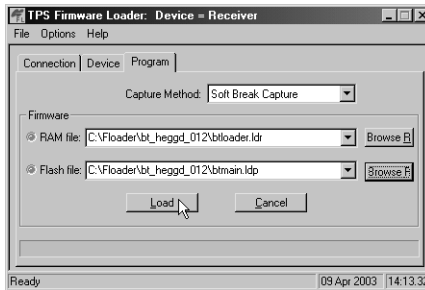

Figure 4-24. Program Tab Settings
3. Select the **Program** tab and set the Capture Method to Soft Break Capture (recommended) (Figure 4-24).
4. Browse for and select the Bluetooth module's RAM file and Flash file (Figure 4-24).